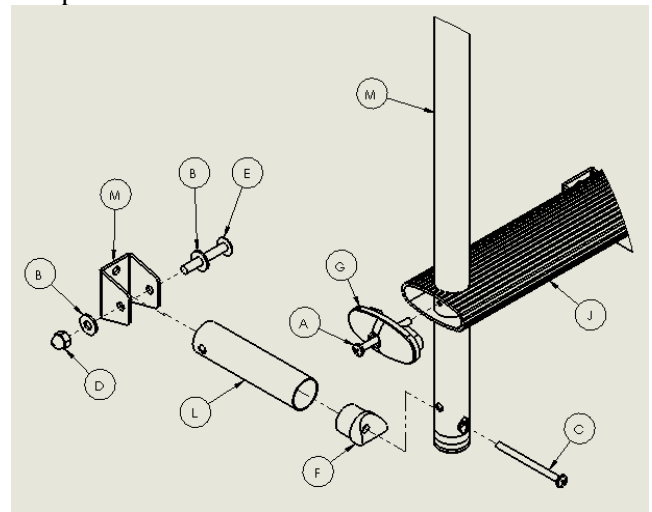

Figure 1: Standoff / Step Assembly
Step 1: Using "Figures 1, 2, and 3" assemble the top section of the ladder assembly. It is recommended that fasteners be kept loose until final fit-up to your boat is complete.